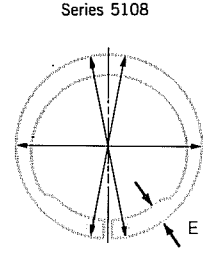

FIG. 4
- For Series 5108: Release ring and measure O.D. in three directions through center of ring as shown in Fig. 4 above. Measure lug height (dimension "E"). Ring is fully operative if: